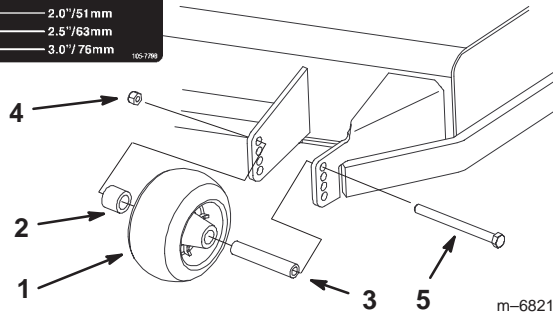

Figure 18
2. After adjusting the height-of-cut, adjust the rollers by removing the flange nut, bushing, spacer, and bolt (Figures 18, 19 and 20).
3. Select a hole so the anti-scalp roller is positioned to the (Figures 18, 19 and 20).
4. Install the flange nut bushing, spacer, and bolt. Torque to 40–45 ft-lb (54–61 N·m) (Figures 18, 19 and 20).